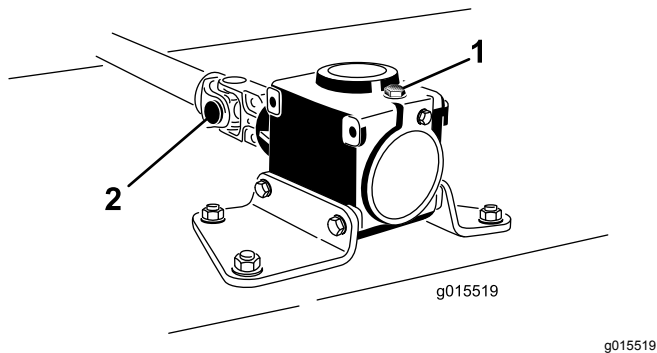

Figure 3
- Remove the roll pin from the end yoke and the gearbox shaft (Figure 3). Retain the roll pin for re-use.
- Loosen the 2 capscrews and locknuts (Figure 3).